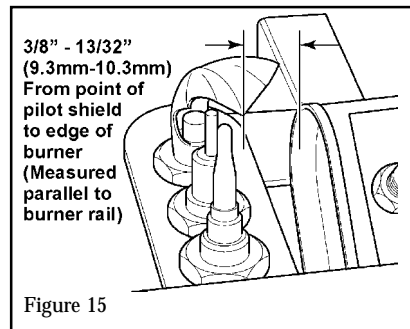

Figure 15
16. Check the pilot position relative to the burner. See figure 15. Check ignition spark (refer to installation guide).